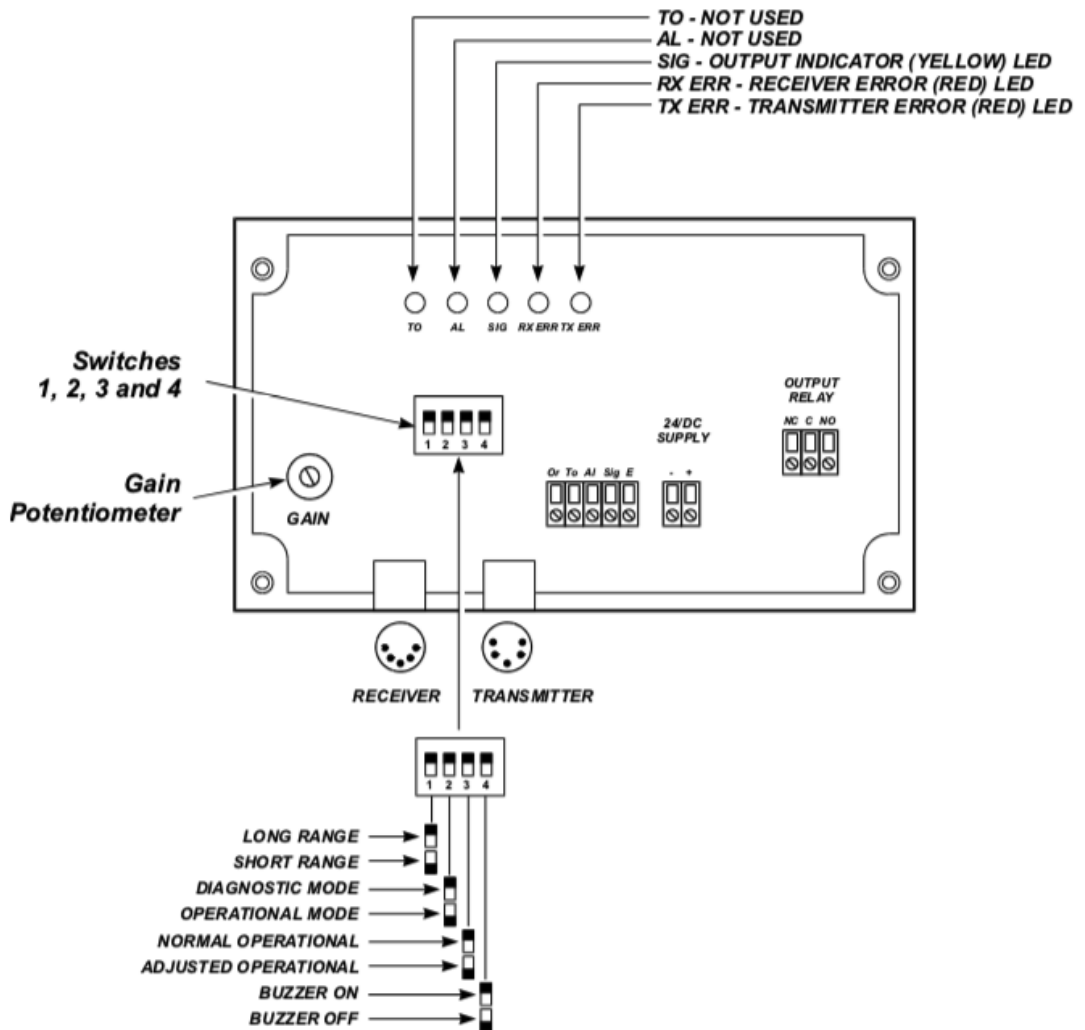

Figure 63: Safety Light Curtain Control Box with lid removed
7. Ensure that Switch 2 (*sw2*) (Figure 63) is set to **Off** (Operation Mode).
11. Slowly adjust the gain potentiometer (Figure 63) clockwise (to maximum) until the transmitter and receiver can sense each other, for example, the receiver can detect the beam sent from the transmitter.
Switch *sw2* **On** (Diagnostic mode). After approximately 15 seconds the *RX ERR* and *TX ERR* LEDs (Figure 63) will indicate if there is a faulty beam: